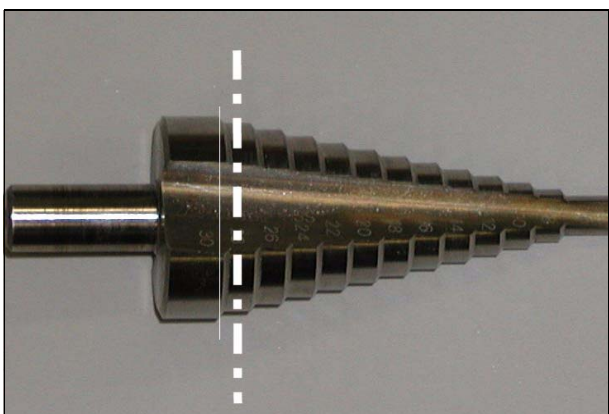

Fig. 3
- With the step drill open up the center hole to 28 mm in diameter. The dashed line in Fig. 3 shows the 28 mm step of the step drill.